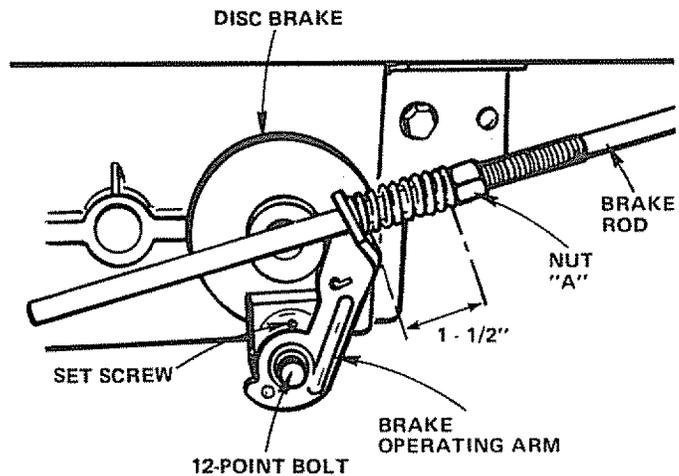

FIGURE 27
This tractor is equipped with an adjustable disc brake mounted on the right side of the transaxle (Fig. 27).
- To adjust, tighten Set Screw (Fig. 27) clockwise (↻) until Disc Brake can not be moved by hand. Now loosen Set Screw by turning counterclockwise (↺) 1/2 turn. NOTE: PARKING BRAKE MUST BE DISENGAGED WHILE MAKING ADJUSTMENT.